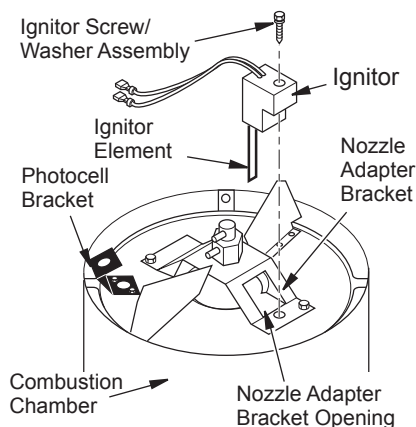

Figure 13 - Ignitor SP002-01 Replacement
6. Remove combustion chamber. Stand combustion chamber on end with nozzle adapter bracket on top (see Figure 13).